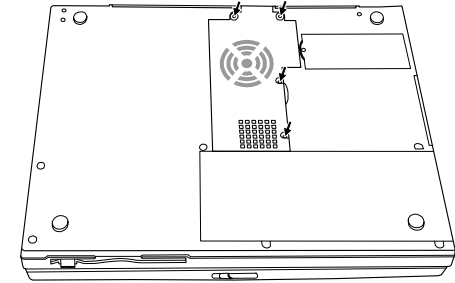

Figure 5-7. Removing the CPU Compartment Cover
2. Open the CPU compartment cover by removing four screws and lifting up the cover from one side. (Refer to Figure 5-7)
4. Replace the CPU compartment cover and secure with four screws. (Refer to Figure 5-7 earlier.)
2. Open the CPU compartment cover by removing four screws and lifting up the cover from one side. (See Figure 5-7.)
3. Remove four screws that fasten the fan assembly. Remove the bottom screws (❶) first and then the upper screws (❷).
5. Replace the CPU compartment cover and secure with four screws. (Refer to Figure 5-7 earlier.)
1. Open the CPU compartment cover by removing four screws and lifting up the cover from one side. (See Figure 5-7.)
2. Replace the compartment cover and secure with four screws. (Refer to Figure 5-7 earlier.)